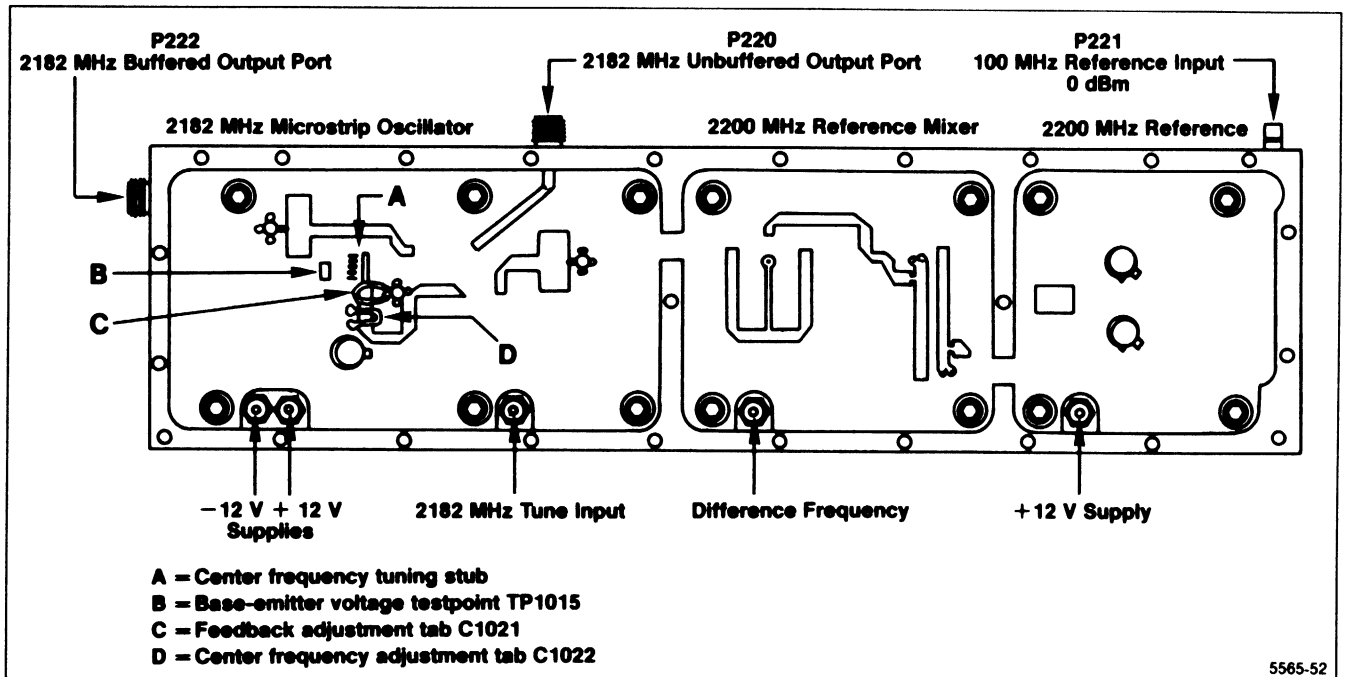

Figure 6-17. 2182 MHz Phase Locked 2nd LO adjustment and test point locations.
Install a 50 $\Omega$  terminator on the 2182 MHz buffered output port, P222 (see Figure 6-17).
e. Bend the feedback and frequency adjusting tabs, C1021 and C1022 (C and D in Figure 6-17) so they are approximately 30 degrees above the board surface.
h. Check Vbe at TP1015 (B in Figure 6-17). If Vbe is greater than +0.5 V, push the feedback adjustment tab down slightly and if less than -0.3 V, lift the tab. If Vbe is greater than +0.8 V, replace the microstrip oscillator board. If Vbe is more negative than -1 V, check the bias circuitry. Adjust the tab so Vbe is +0.15 V,  $\pm$ 0.05 V at TP1015. Do not touch the feedback tab while measuring voltages.
i. Check that the 2nd L.O. signal (frequency) is within one major division of the center graticule line (2.181 GHz to 2.183 GHz). Bend the frequency adjustment tab C1022 (D in Figure 6-17) to bring the oscillator within tolerance. (Bend the tab up to increase frequency and down to lower frequency.)
j. If unable to bring the oscillator frequency within range with the adjustment tab, the frequency of the 2182 MHz oscillator can be brought within range of the adjustment tab by shortening a transmission line stub (A in Figure 6-17). Graduation marks along the side of the stub provide a guide to calculate frequency correction. Each minor mark from the end or cut across the stub, represents an approximate change of 25 MHz.
b. Confirm that the output signal frequency is 18 MHz  $\pm$  1 MHz. Adjust the tab C1022 (Figure 6-17) for the 2182 MHz Microstrip Oscillator, to bring the 18 MHz within the 1 MHz tolerance.
(1) Vary the voltage to the 2182 MHz tune line between 0 V and  $-12.5$  V and note the frequency change at C2204 (the output of the 2200 MHz Reference Mixer).
(2) The frequency should vary between 20 MHz and 35 MHz as the tune line voltage is varied between 0 V and  $-12.5$  V.